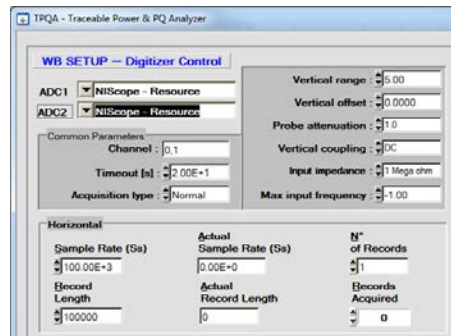

Figure A.5: TPQA configuration panel for vertical and horizontal setting of digitizer physical channels.
- Configuring vertical and horizontal digitizer parameters: Figure A.5 shows the control parameters allowing the configuration of each physical channel of the digitizer. Vertical setting comprises common parameters as **Vertical range, offset and coupling, Input impedance** and additional parameters as **Probe attenuation** and **Max Input frequency**. Horizontal setting comprises common parameters as **Sample Rate** and **Record Length**, which must be set manually by users.